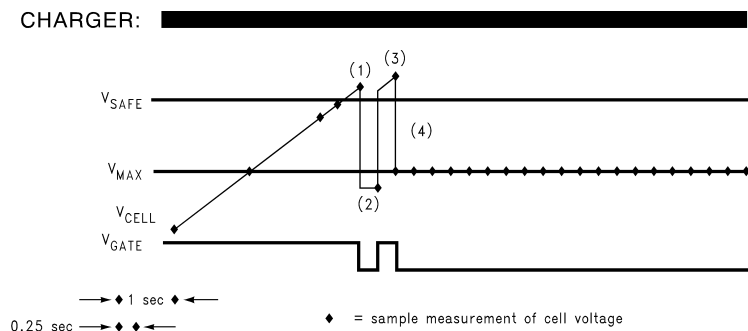

FIGURE 3. Termination of Illegally High Charging
Should a high charge current be applied to the pack near the end of charge, the cell voltage could exceed V_{SAFE} , which is approximately 100 mV greater than V_{MAX} (1), see *Figure 3*. On the first detection of a cell voltage in excess of $V_{SAFE-OVERCHARGE}$, the MOSFET pair will be turned OFF (2). The sample rate increases to 4 Hz after the first detection of $V_{CELL} > V_{MAX}$. It is desirable under these circumstances for the MOSFET pair to turn ON for only the shortest allowed time period, which is 0.25 seconds. Each sample exceeding V_{SAFE} causes the MOSFET pair to turn OFF (3). Should the cell voltage not drop below V_{MAX} after the MOSFET pair turn